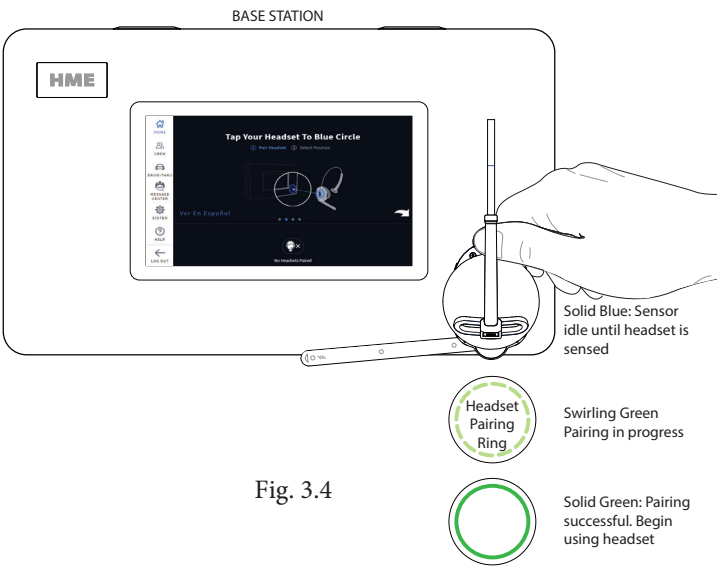

Fig. 3.4
2. Pair the headset by holding the headset's keypad side against the Headset Pairing Ring (solid blue circle) on the base station (see Fig. 3.4). Pairing begins automatically as soon as the headset is sensed.